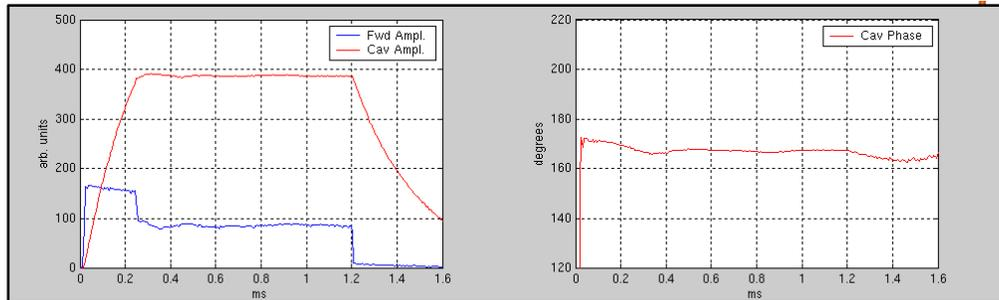

Figure1. Cavity amplitude and phase with feedforward & feedback control.
Accomplishments: (1) We accepted the first 550-kW 805-MHz klystron (Fig. 1) at the Thales factory. The tube demonstrated 560 kW RF output @ 20 Hz, 4.6 ms in normal operation. (Thales is testing at long pulse because of failure of original test stand.) The tube also demonstrated in excess of 605 kW in a 24-hour heat run. Some requirements problems were discovered but all were addressed by changes before the completion of test. The second tube is scheduled for factory test 3/10, with the third tube on 3/24, and the 23rd (and last) tube forecast for 12/2/03. All dates support the Integrated Project Schedule. (2) We continued the 5-MW tube and circulator site acceptance tests at LANL
Fig. 1: First Article: 550-kW, 805-MHz Thales Klystron. Left: Top of klystron showing the collector and output window (in testing 'pit' at Thales). Right: Body of klystron in the focusing solenoid mounted on the modulator.
Figure 1: Typical example of resonance error calculation via Decay-Fit. Left: Measured cavity amplitude, right: I and Q of the field during decay (marks) and fitted curve (lines).
Figure 1: Example of “burst-type” forward waveform and resulting cavity field together with result of curve fit. The resonance error according to the fit is  $\Delta f = 3.029$  kHz.